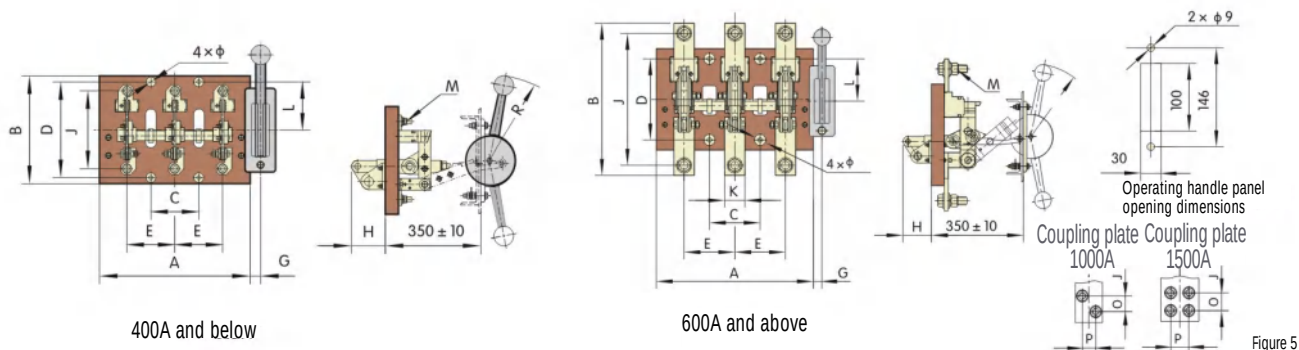

Figure 5
5.5 HD12 appearance and installation dimensions (see Figure 5, Table 6).